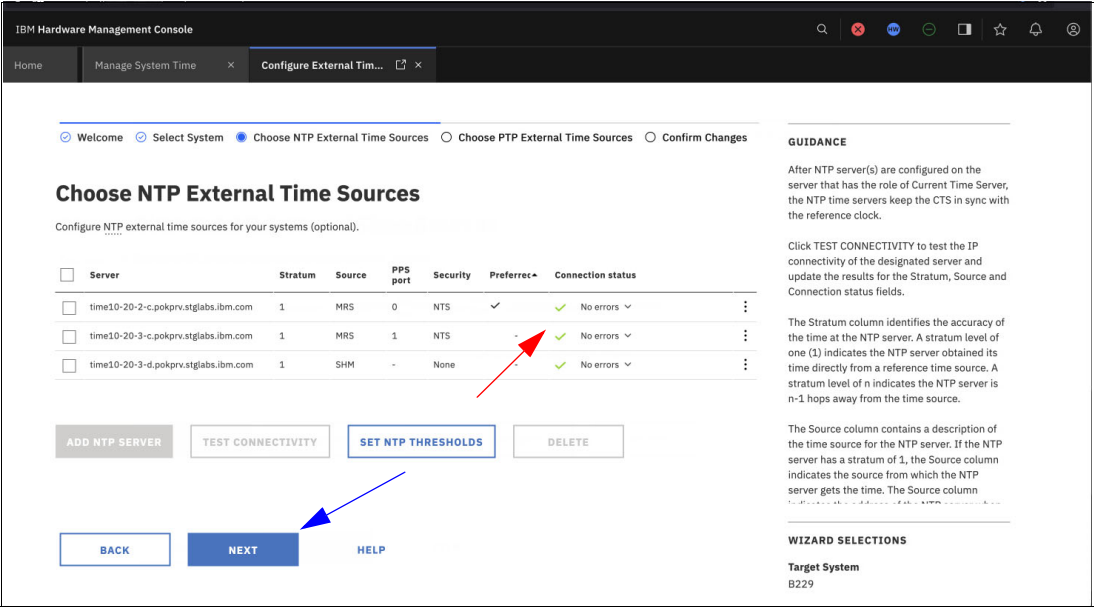

Figure 4-21 NTP servers connectivity successful test
8. After you test and verify the connection, select **SET NTP THRESHOLDS** (Figure 4-21).